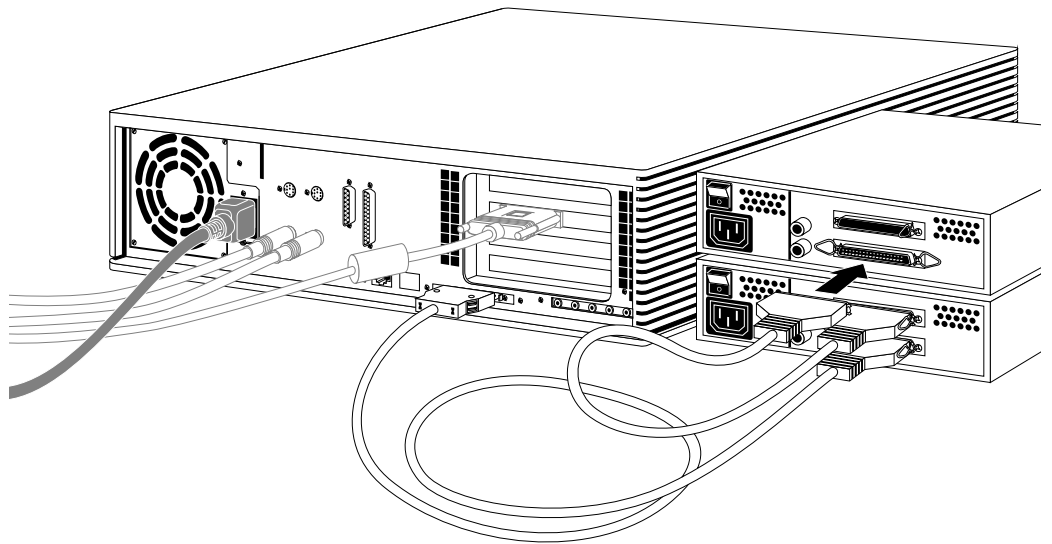

Figure 6-9 Daisy-Chaining an External SCSI Device to Another External SCSI Device
- Connect one end of the cable to the open connector on the first device, as shown in Figure 6-9.